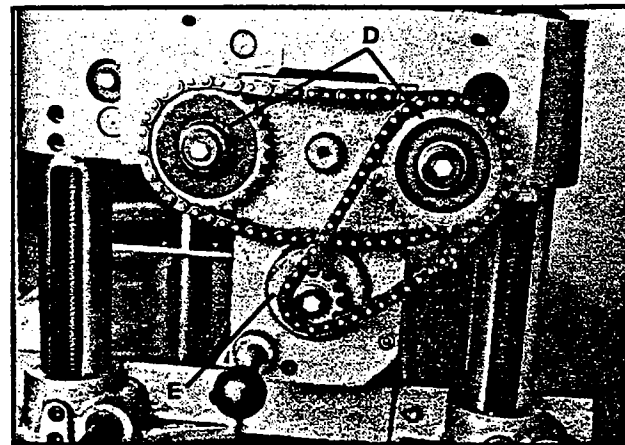

Fig. 17
When the feed rolls are engaged, they turn and feed the stock. The feed rolls slow automatically when the machine is under heavy load for best planing under all conditions. The feed rolls are driven by a chain and sprocket drive (D) Fig. 17, which takes power directly from the cutterhead through the oil bath gear box (E).